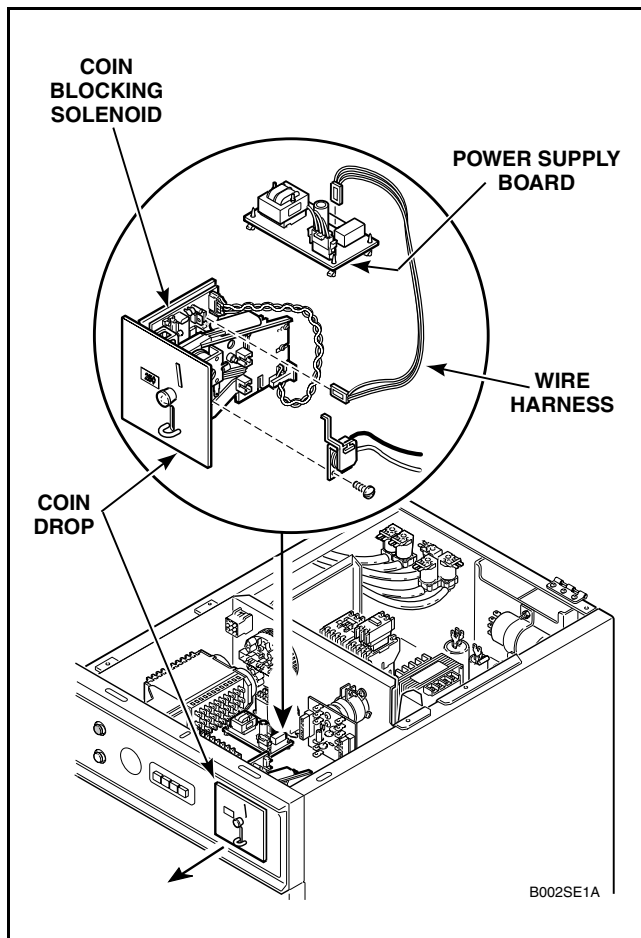

Figure 2
- Disconnect red three-wire harness from power supply board. Remove wires from coin blocking solenoid, refer to *Figure 2*.